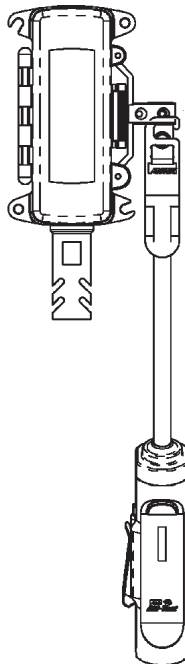

Fig. 32: Probe Clip Hanger used on an outside air sensor
- Outside air sensor measurement requires that the Blü-Test probe be placed next to the outside air sensor. This may require a ladder or extension pole. Hold the Blü-Test probe in place for 3 minutes or until the reading stabilizes. The Probe Clip Hanger makes this easier by holding the probe for you (Fig. 32).